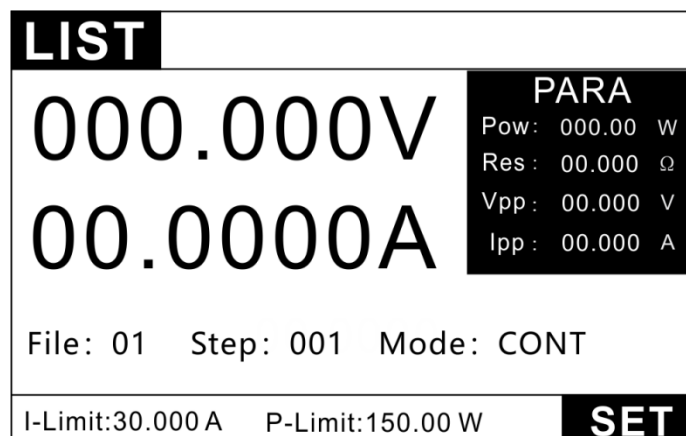
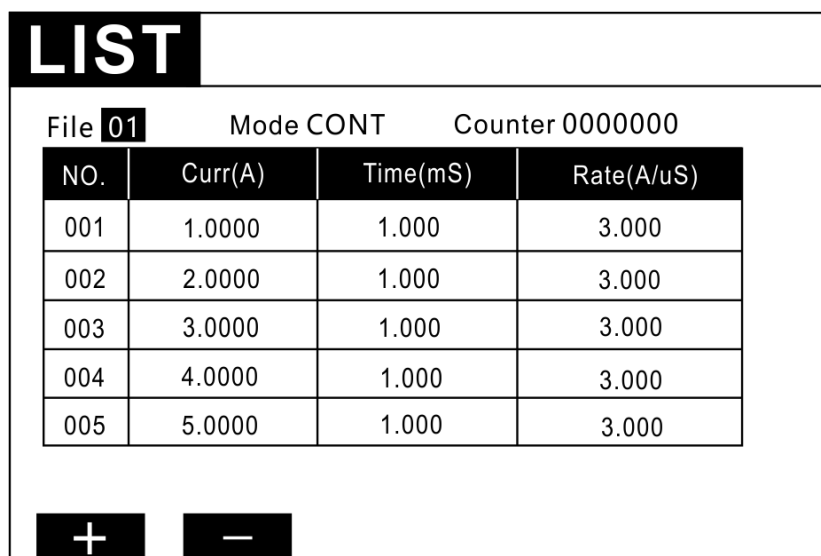

Figure 3.5 LIST mode test interface
Figure 3.6 Edit the LIST file
2. In Figure 3.5, press the key **SET** to enter the setting interface, as shown in Figure 3.6.
3. Select the desired file number by pressing the key +/-, as shown in Figure 3.6
6. Press the key ADD to increase the number of steps and set the parameters for each step, as shown in Figure 3.6.